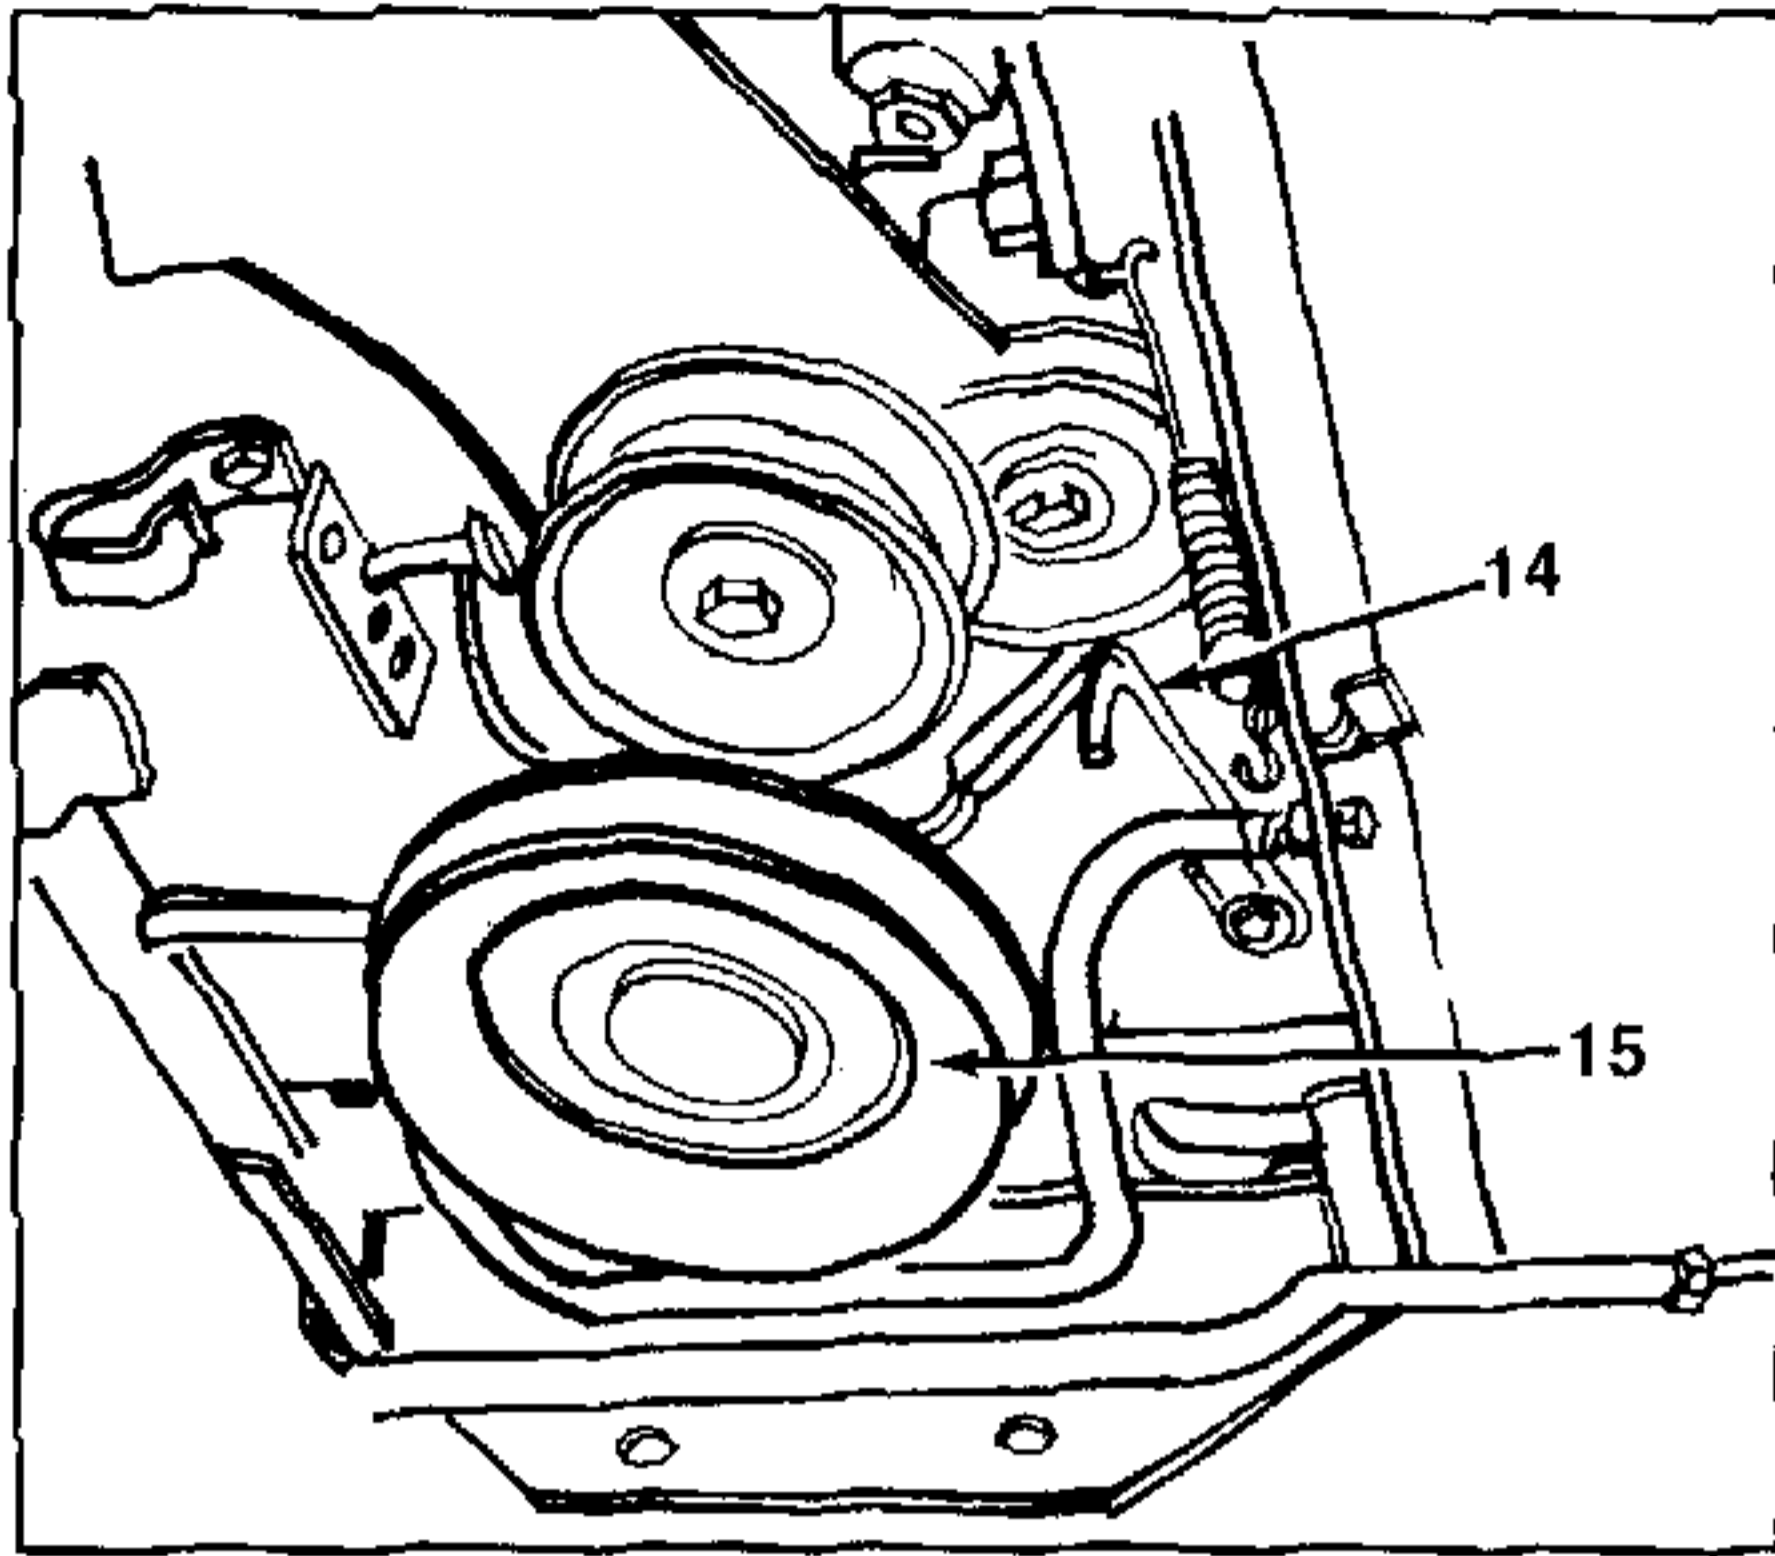

FIGURE 6.
(Models 1715 and 1720) (For Manual P.T.O. Drive Belt Models, Refer to page 2-85, Figure 6.)**
1. Loosen the hex bolt on the wire belt guard and pivot wire guard out of the way. See figure 6.